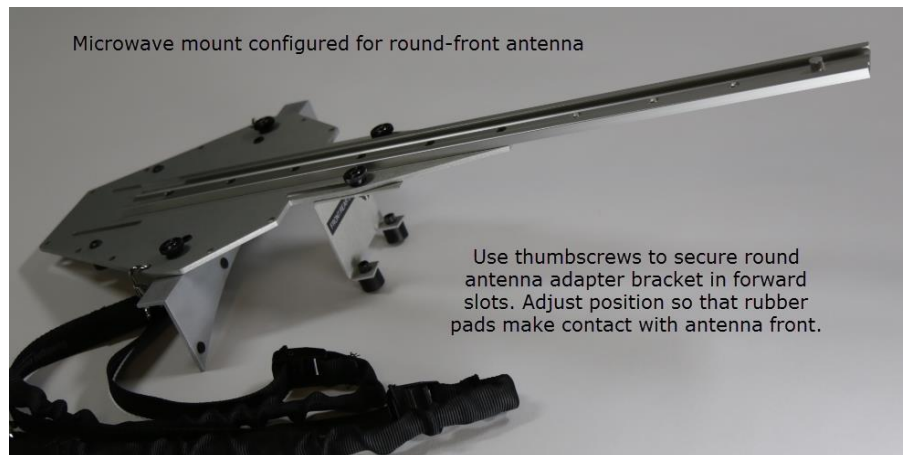

Figure 11
- 1) For convex front antennas (shielded and unshielded), configure the mount, including the front/rear support bracket - the front/rear support bracket is secured to the mount’s forward slides, which will allow the rubber pads to contact the antenna face. **See Figure 11**